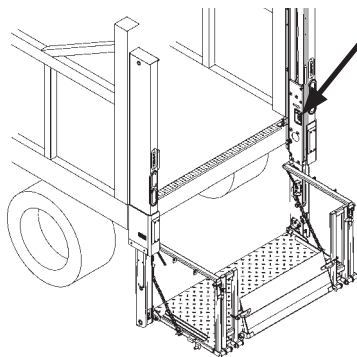

FIG. 13-2B
**POWER DOWN** button (if equipped) on runner switch (FIG. 13-2A) lets operator lower platform by pressing the **POWER DOWN** button once and pushing and holding the toggle switch (**DOWN**) (FIG. 13-2B), while standing on the platform. The **POWER DOWN** button (FIG. 13-2A) illuminates to indicate the power down function is activated.